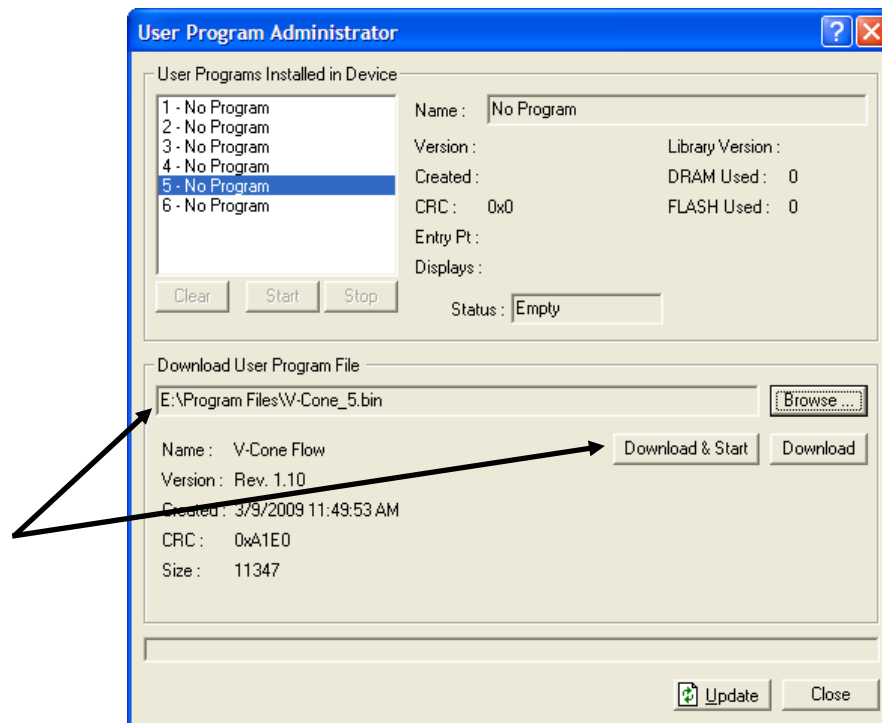

Figure 3. User Program Administrator
6. Click **Open** to select the program file. The User Program Administrator screen displays. As shown in Figure 3, note that the Download User Program File frame identifies the selected program and that the **Download & Start** button is active: